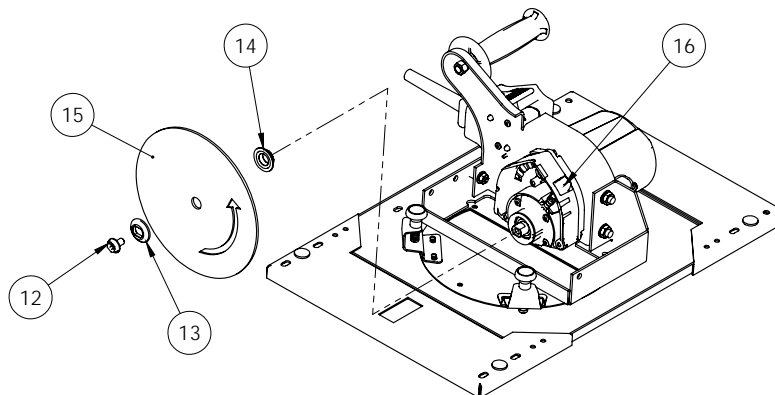

Figure 25: Installing a Saw Blade (SR5 & SR5A)
3. Tighten a Carriage Lock. While holding the spindle lock "in" (Fig. 25, #16) (located on the bottom side of the motor) **remove the blade bolt** (#12), using the included 6mm hex wrench, (supplied with the machine) from the saw motor spindle by turning it **counterclockwise**. Remove the outer blade flange (#13), but leave the inner blade flange (#14) on the spindle.
4. Install the blade with the arrow pointing counterclockwise as shown Fig. 25, #15.